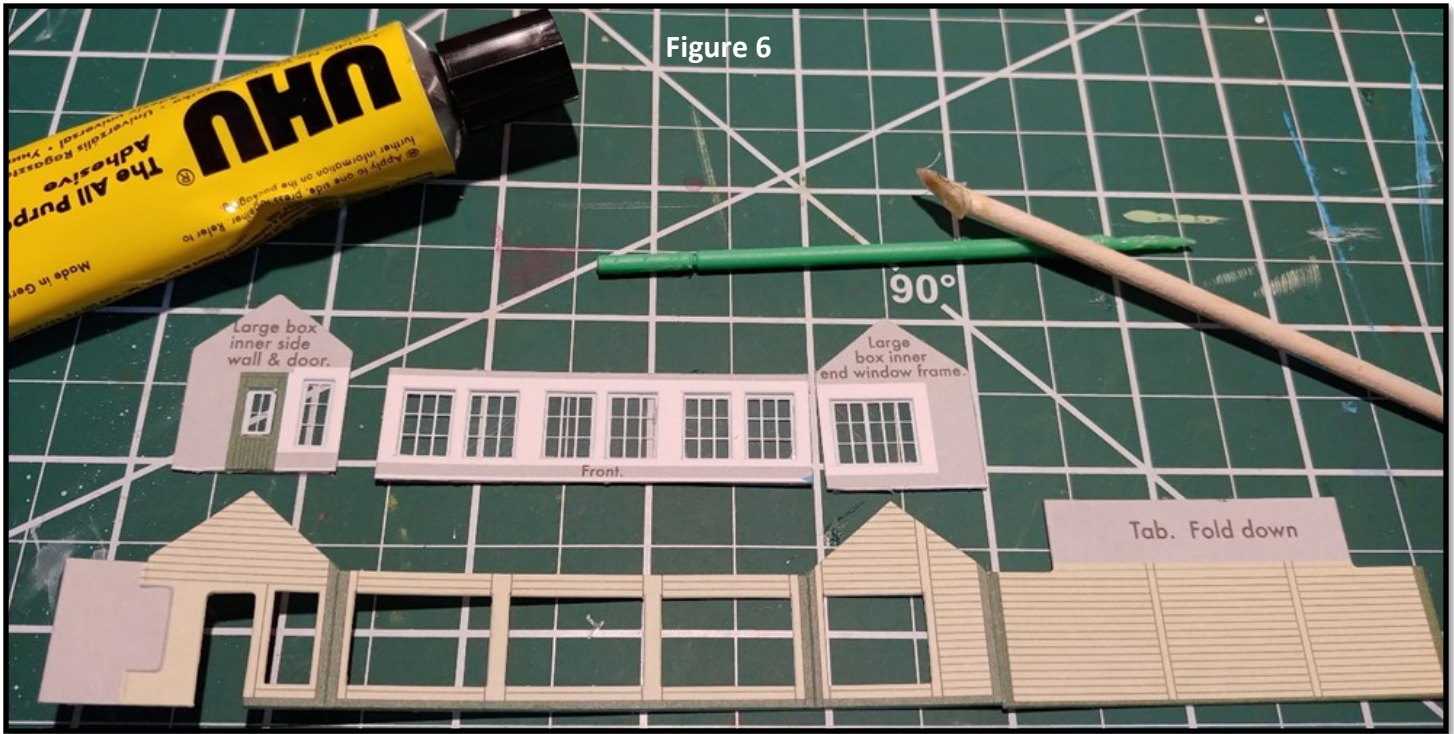

Figure 6
**Figure 6** shows the elements of the upper floor assembly with my glue and my glue spreaders. The green spreader is a micro brush with the fuzzy end snipped off. The brown glue spreader is a manicure orange stick that I had previously used to spread glue and had left on my matt in a pool of glue. When the glue dried it created a nice “paddle” at the end of the stick. While not intentional and I should not have left it in that manner, it does make a nice glue applicator for larger flat areas.